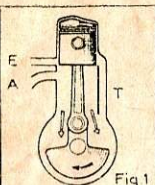

Fig. 1
- A. The ascending piston compresses a mixture of petrol and air in the cylinder head and creates at the same time a partial vacuum in the crankcase, which, when the piston has travelled past the inlet port, causes a fresh mixture of petrol and air to be drawn into the crankcase, see Fig. 1.